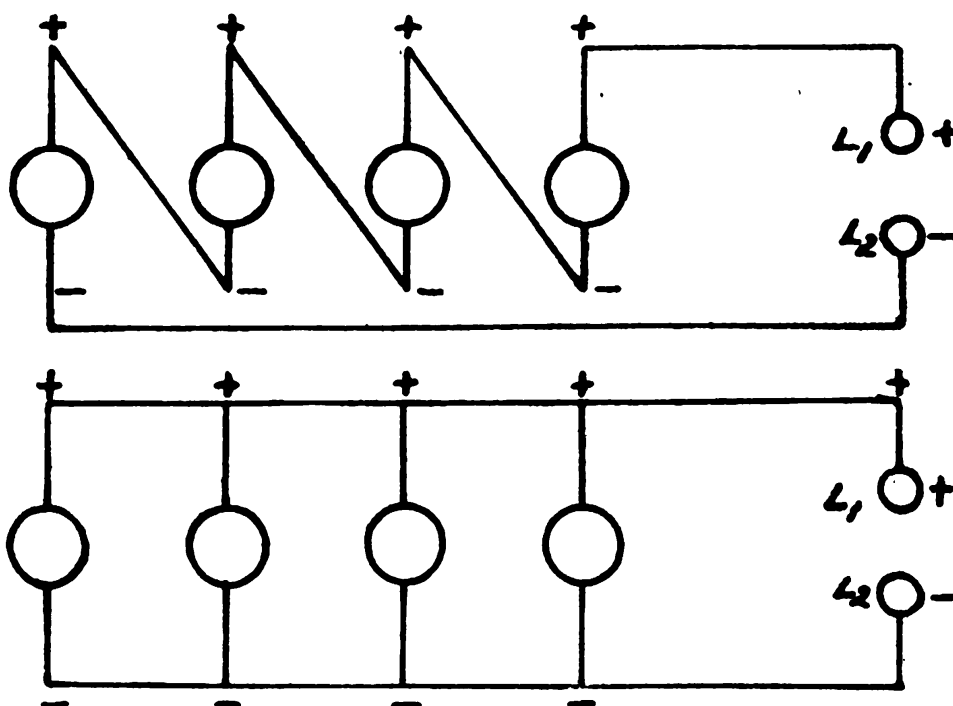

FIGURE 147.—Upper: Batteries connected in series. Lower: Batteries connected in parallel or multiple.
*Q.* What is meant by the expression “in series”? Show how to connect a battery in series.—*A.* See figure 147, upper. The cells of a battery are said to be in series when the positive terminal of each cell is connected to the negative terminal of the next cell. The cells are thus in tandem, the entire current generated by all of them passing through each cell.
*Q.* Assume that each of the cells in figure 147, upper, is a dry cell with a voltage of  $1\frac{1}{2}$  volts. What is the voltage of the combination?—*A.* The electromotive force or voltage of the combination of cells will be 6 volts ( $4 \times 1\frac{1}{2}$ ).
*Q.* What is meant by the expression "in parallel" or "in multiple"? Show how to connect four batteries in parallel.—*A.* See figure 147, lower. Batteries are said to be in parallel when all their positive terminals are connected to a common point ( $L_1$ ), and all their negative terminals to another point ( $L_2$ ). The batteries are thus abreast, a portion only of the resultant current passing through each battery.
*Q.* Assume that each of the cells in figure 147, lower, is a dry cell with a voltage of  $1\frac{1}{2}$  volts. What is the voltage of the combination?—*A.* The electromotive force or voltage of the combination of cells will be  $1\frac{1}{2}$  volts.
(1) Refill the battery with distilled water so that the plates are always covered with electrolyte.
(2) Never allow the battery to discharge fully.
(3) Do not add sulfuric acid to the battery.
- (4) Keep battery always in an upright position.
- (5) Never leave a battery connected when current is not required.